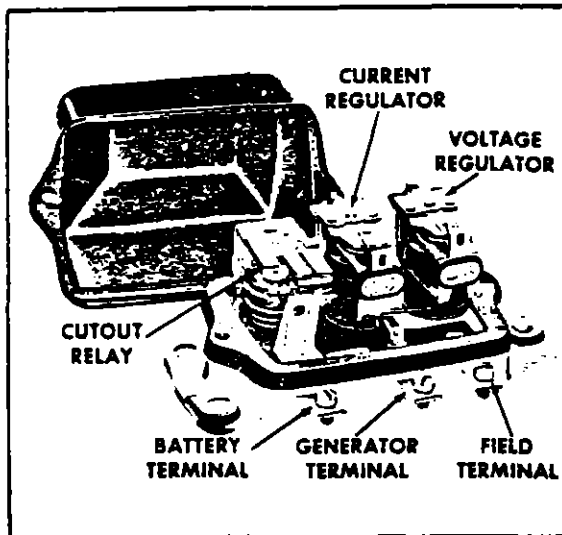

Figure 11-4. Current/Voltage Regulator
11-25. DESCRIPTION OF REGULATOR. The regulator shown in Figure 11-4 consists of a cutout relay, a voltage regulator and a current regulator unit. The cutout relay closes the generator to battery circuit when the generator voltage is sufficient to charge the battery, and it opens the circuit when the generator slows down or stops. The voltage regulator unit is a voltage-limiting device that prevents the system voltage from exceeding a specified maximum and thus protects the battery and other voltage-sensitive equipment. The current regulator unit is a current-limiting device that limits the generator output so as not to exceed its rated maximum.
a. The cutout relay (Refer to Figure 11-4) has two windings, a series winding of a few turns of heavy wire and a shunt winding of many turns of fine wire. The shunt winding is connected across the generator so that generator voltage is impressed upon it at all times. The series winding is connected in series with the charging circuit so that all generator output passes through it. The relay core and windings are assembled into a frame. A flat steel armature is attached to the frame by a flexible hinge so that it is centered just above the stationary contact points. When the generator is not operating, the armature contact points are held away from stationary points by the tension of a flat spring riveted on the side of the armature.
a. The voltage regulator (Refer to Figure 11-4) has two windings assembled on a single core, a shunt winding consisting of many turns of fine wire which is shunted across the generator, and a series winding of a few turns of relatively heavy wire which is connected in series with the generator field circuit when the regulator contact points are closed.
a. The current regulator (Refer to Figure 11-4.) has a series winding of a few turns of heavy wire which carries all generator output. The winding core is assembled into a frame. A flat steel armature is attached to the frame by a flexible hinge so that it is just above the core. The armature has a contact point which is just below a stationary contact point. When the current regulator is not operating, the tension of a spiral spring holds the armature away from the core so that the points are in contact. In this position the generator field circuit is completed to ground through the current regulator contact points in series with the voltage regulator contact points.